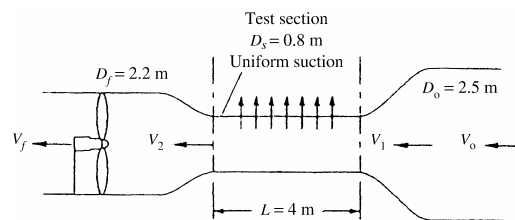

Fig. P3.33
3.33 In some wind tunnels the test section is perforated to suck out fluid and provide a thin viscous boundary layer. The test section wall in Fig. P3.33 contains 1200 holes of 5-mm diameter each per square meter of wall area. The suction velocity through each hole is $V_r = 8 \text{ m/s}$, and the test-section entrance velocity is $V_1 = 35 \text{ m/s}$. Assuming incompressible steady flow of air at 20°C , compute (a) V_0 , (b) V_2 , and (c) V_f , in m/s .